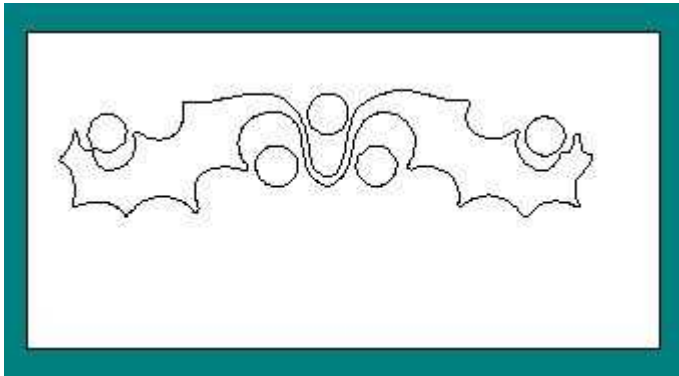

Figure 4
- 6 You will now have your Workspace with the Traced Bitmap on your screen, see Figure 4. We have left the Bitmap visible to show what the Bitmap image looks like. To show the Vector Trace, you will need to make the Bitmap invisible. To do this select "Bitmap" from the Main Menu Bar, un-check "Show Bitmap". You should now have your Workspace with just the Traced outline showing.